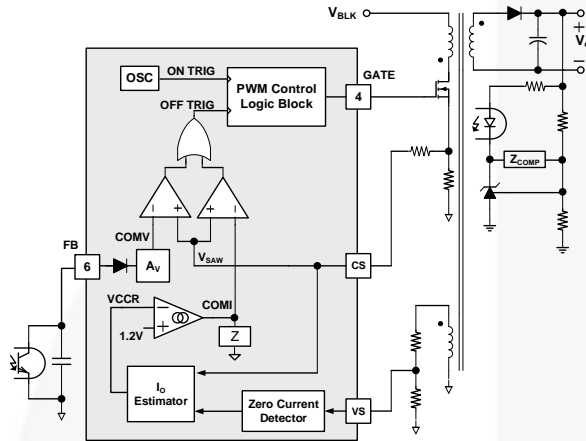

Figure 36. Simplified PWM Control Circuit
Figure 36 shows a simplified CV / CC PWM control circuit of the FAN602F. The Constant Voltage (CV) regulation is implemented in the same manner as the conventional isolated power supply, where the output voltage is sensed using a voltage divider and compared with the internal reference of the shunt regulator to generate a compensation signal. The compensation signal is transferred to the primary side through an opto-coupler and scaled down by attenuator A_V to generate a COMV signal. This COMV signal is applied to the PWM comparator to determine the duty cycle.